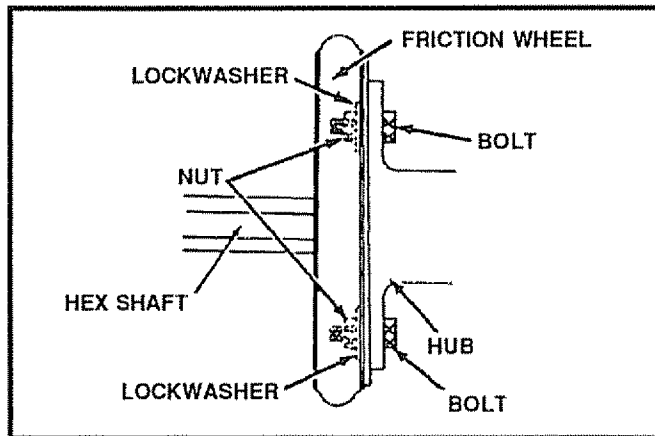

FIG. 33
- Remove the bolts and nuts from the bearing at the right end of the hex shaft (See Fig. 33).